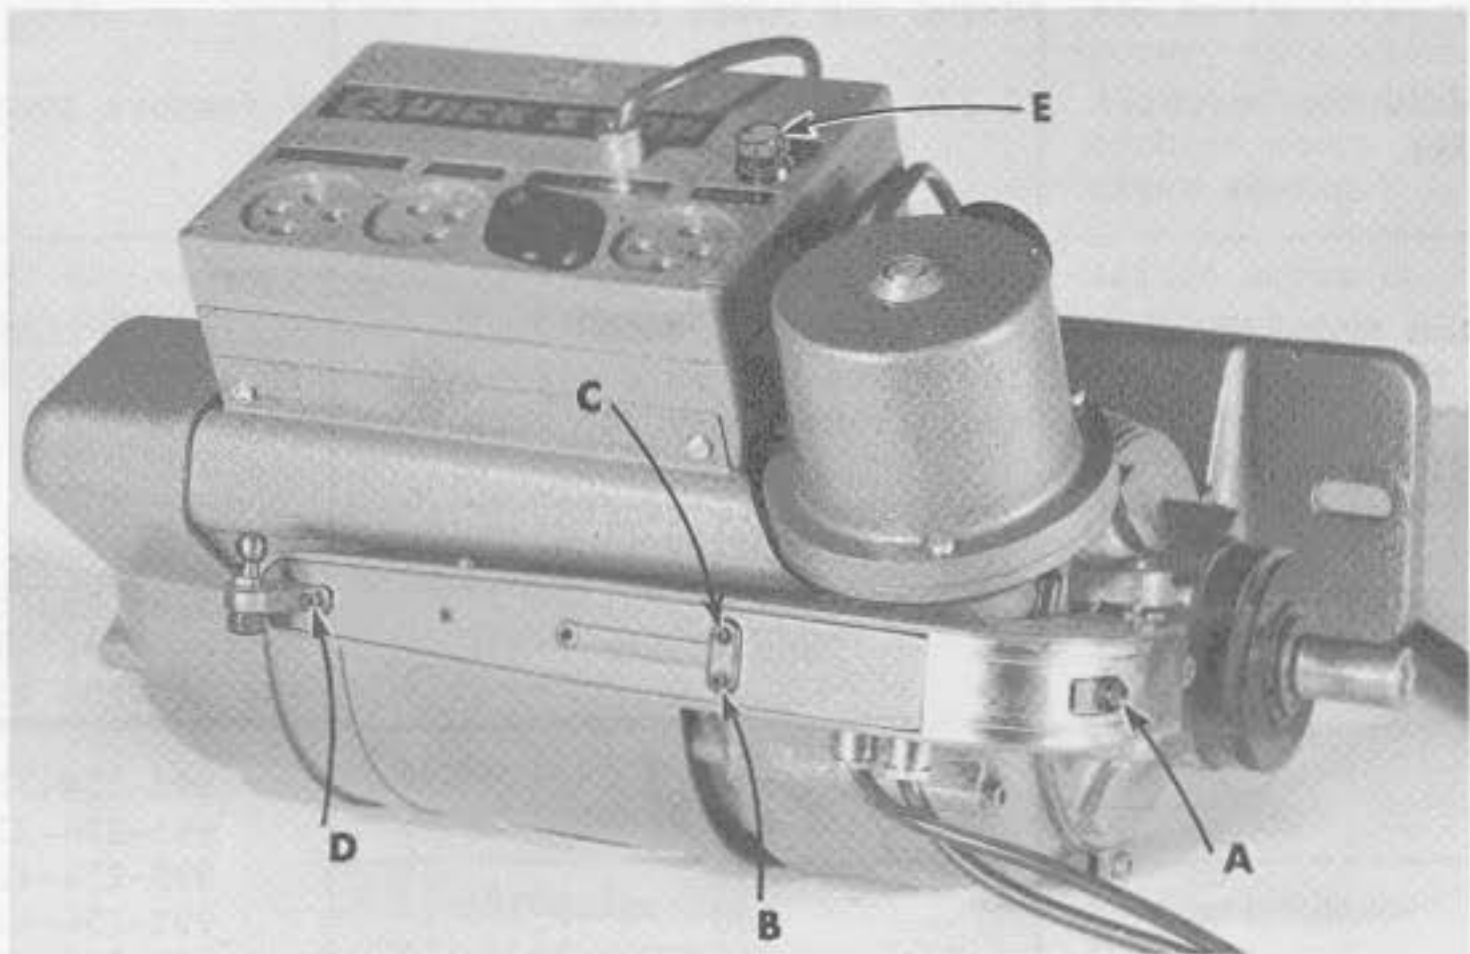

Fig. 43
Adjustment of the micro switch, located on the right hand side of the clutch arm, which actuates the magnetic clutch, should be made as follows; with the treadle in "rest position". Turn the set screw (A, Fig. 43) in a clockwise direction until the switch closes and the auxiliary control starts running. Now, turn the set screw in a counterclockwise direction to the position where the auxiliary control stops running. Continue to turn the set screw counterclockwise 1/2 to 1 complete revolution to obtain the correct setting of the switch.
However, if the needle travels right through the down position to the up and trim position, this indicates micro switch is open. Screw (B, Fig. 43) should be turned clockwise until micro switch is closed when treadle is in rest position.
If the down only position is desired, turn screw (B, Fig. 43) clockwise until micro switch is closed when treadle is in the rest position.
Screw (C, Fig. 43) is for adjustment of the micro switch which activates an automatic presser foot lifting mechanism. This assist is not available at the present time. It should be remembered not to turn this screw all the way in as it will affect the function of screw (B).
Screw (D, Fig. 43) should have only enough tension on the spring to return the treadle to the rest position after it has been heeled.
This unit incorporates a 2 1/2 AMP, 250 V fuse as a safety feature located at (E, Fig. 43).